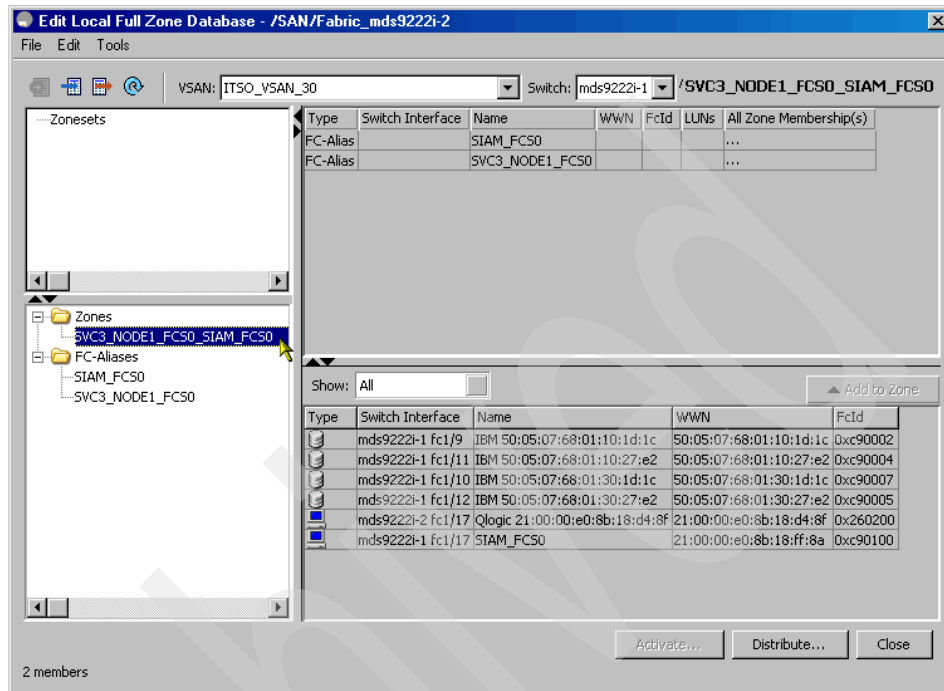

Figure 6-63 Listing members of the created zone
- Click the zone **SVC3_NODE1_FCS0_SIAM_FCS0** to verify its members, as shown in Figure 6-63.